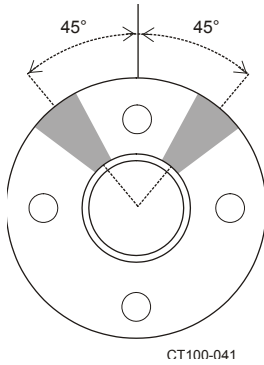

**Figure 33 - Drive Collar to Backplate Dimension**
3. Scribe a mark on the shaft at location “A” behind the backplate. See Figure 33.
6. Locate the drive collar in relation to the scribe mark and secure it to the shaft with the setscrews. See Figure 33.
**Table 6: Callout dimensions for Figure 33**